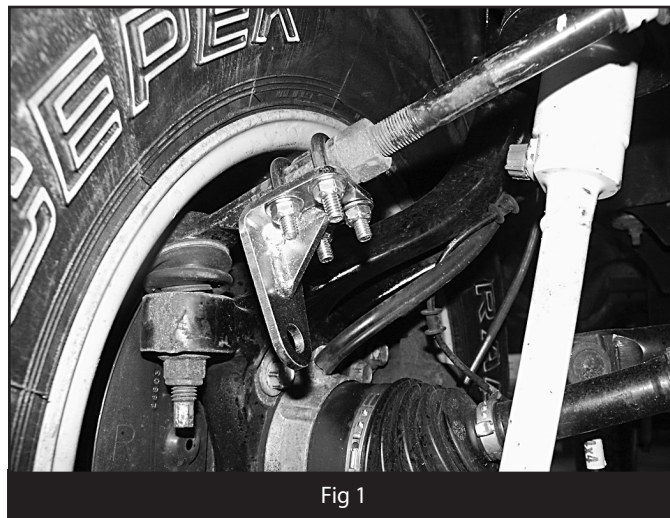

Fig 1
2. Install bracket (01538) as shown on tie rod end. Edge of bracket will be flush with edge of tie rod. Attach with 5/16" u-bolts. Tighten hardware to 17 ft-lbs. (Figure 1)
6. Repeat tie rod bracket installation for driver's side. (Figure 1)